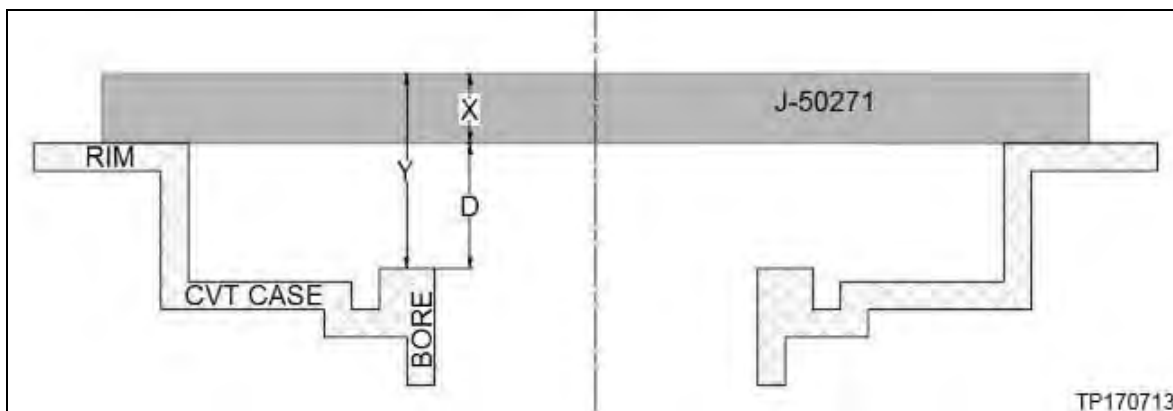

Figure 5M
**NOTE:** Only if a Gauge Block (J-50271) is not available, measurement "X" (Figure 5M, page 59) will need to be determined for the measuring bar being used. This can be done either with a set of calipers or with Digital Depth Gauge (J-50272).
8. Measure the average distance (**Y**) shown in Figure 5M as follows: